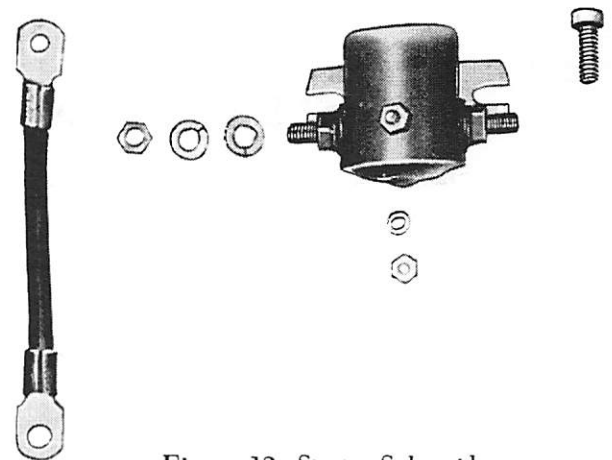

Figure 12. Starter Solenoid
B. Starter Solenoid, 4 and 2 Cylinder Motors (Figure 12)